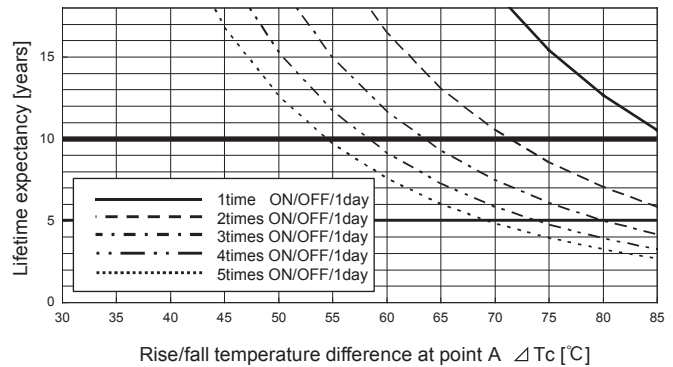
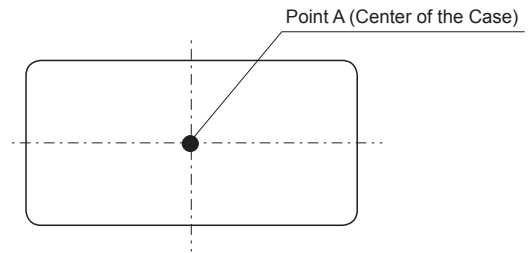

Fig.12.3 Lifetime expectancy against rise/fall temperature difference
Fig.12.4 Temperature measuring point (Top View)
- Product lifetime expectancy depends on case temperature difference (ΔT_c) and number of cycling in a day is shown in Fig.12.3 (It is calculated based on our accelerated process test result.) If case temperature changes frequently by changing output load factor etc., the above the lifetime expectancy design should be applied as well. And point A which is shown in Fig.12.4 must keep below 110°C .
- The warranty period is basically 10 years, however it depends on the lifetime expectancy which is shown in Fig.12.3 if it is less than 10 years.